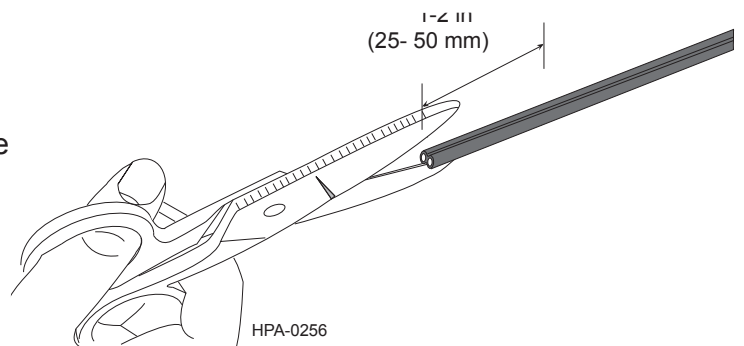

Figure 7
- Step 2:** Holding the cable in one hand, use side cutters or scissors and cut 1 to 2 inches (25 - 50 mm) down the length of the cable inside the channel between the strength rods (Figure 7).